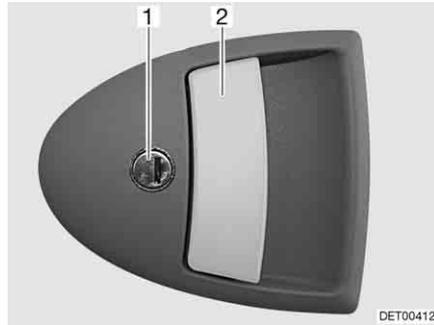

Fig. 58 Door lock of conversion door, outside
- Insert the key into locking cylinder (Fig. 58,1) and turn until the door lock is unlatched.
- Pull on the handle (Fig. 58,2). The door is open.
- Insert the key into locking cylinder (Fig. 58,1) and turn until the door lock is engaged.